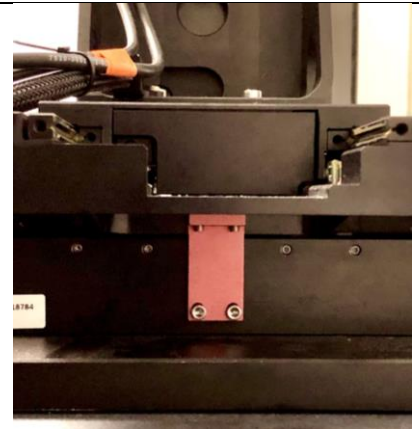

Fig 3. Installed primary stage lock
- Being careful not to touch the silver rails, place a right-angle stage lock in contact with both the primary and secondary stages. Position the long vertical face flush against the primary stage and the short face flush against the underside of the Secondary stage (Fig 3).